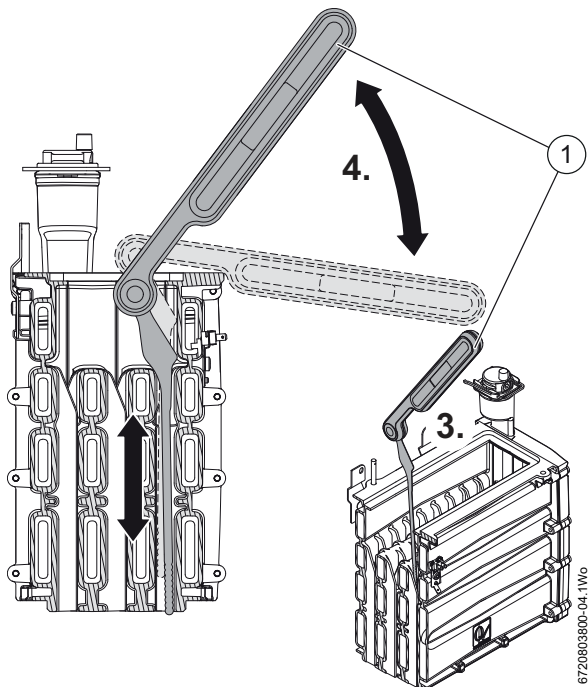

Fig. 74 Cleaning the front channels
3. Orient the cleaning tool (2) as shown in figure 74 and insert the tool into the front channel for cleaning.